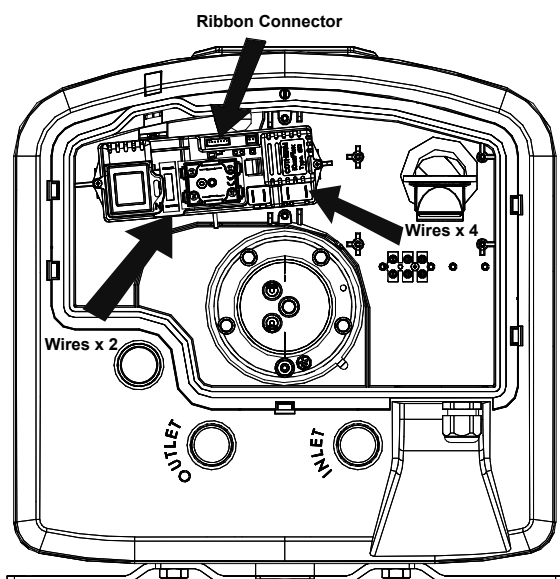

Figure 13: iBD Wiring removal
- ▶ Gently remove the two power wires from the iBD, (see fig 13).
- ▶ Gently remove the four wires from the iBD, (see fig 13).
- ▶ Fit the four wires to the iBD, (see fig 13), ensuring that each wire is correctly positioned, each wire is identified with the connection, refer to fig 2 page 7, wiring diagram.
- ▶ Fit the two power wires from the iBD, see fig 13 opposite, observing the correct polarity, L (Red) and N (Black).